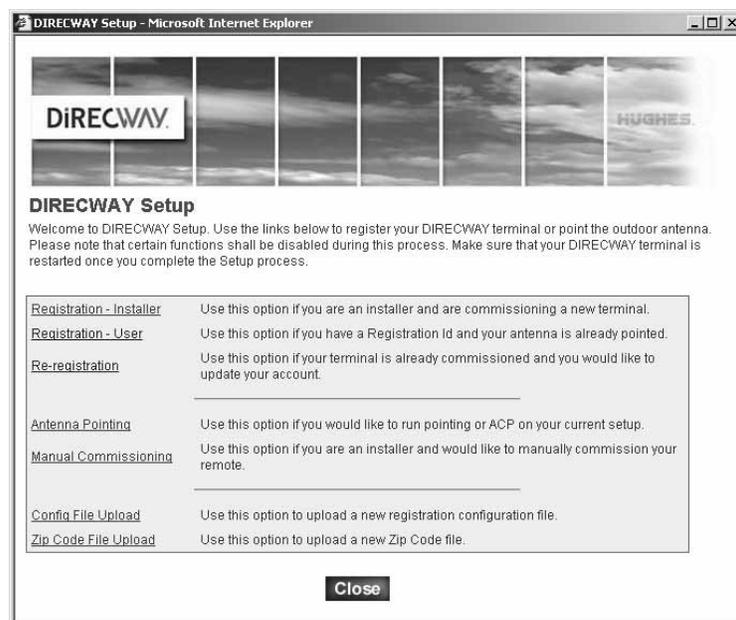

Figure 14: DIRECWAY Setup screen
3. Click **Config File Upload** on the Setup screen shown in Figure 14.